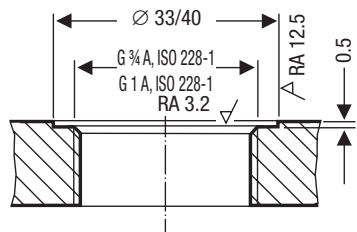

Fig. 12
- The seating surfaces of the standpipe or the flange provided on the vessel must be accurately machined, see **Fig. 12.**
7. Check seating surfaces. **Fig. 12**